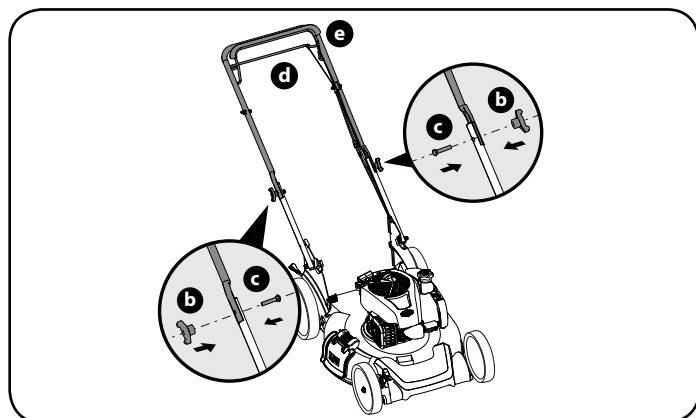

Figure 3
3. Unfold the upper handle (d) and attach it to the lower handle by using 1 knob (b) and 1 bolt (c) on each side, make sure the blade control bar (e) is facing upwards. (Figure 3)